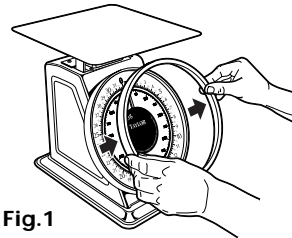
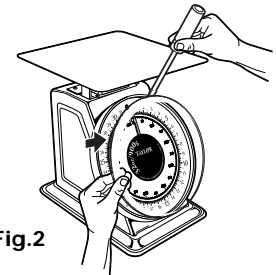

Fig.1
Fig.2
4. The lens can be removed by first pulling the bezel away from the scale case (see Fig. 1), then remove the lens (see fig. 2). You can clean the inside of the lens this way, but be careful to not bend the red pointer. Do the reverse to reattach.